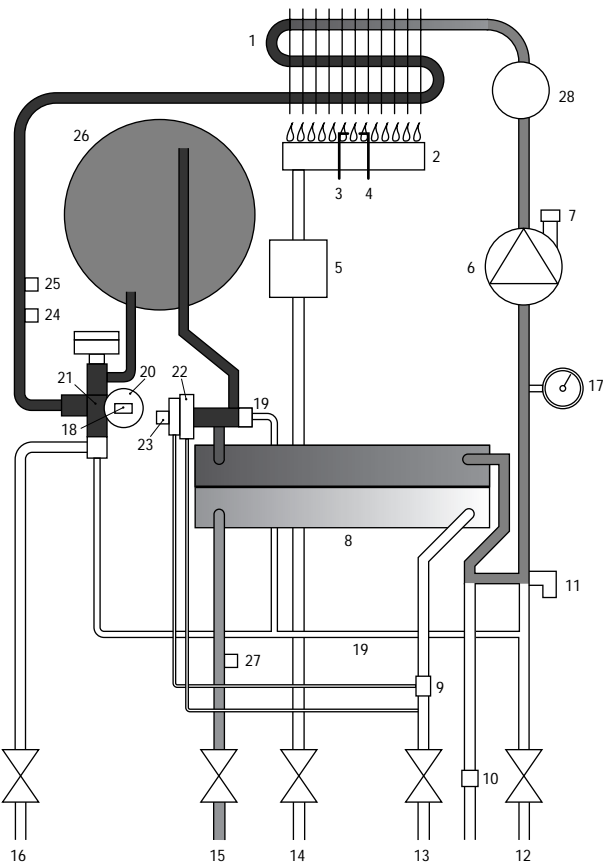

Fig. 4
3.3 Domestic Hot Water Mode (Fig. 4)